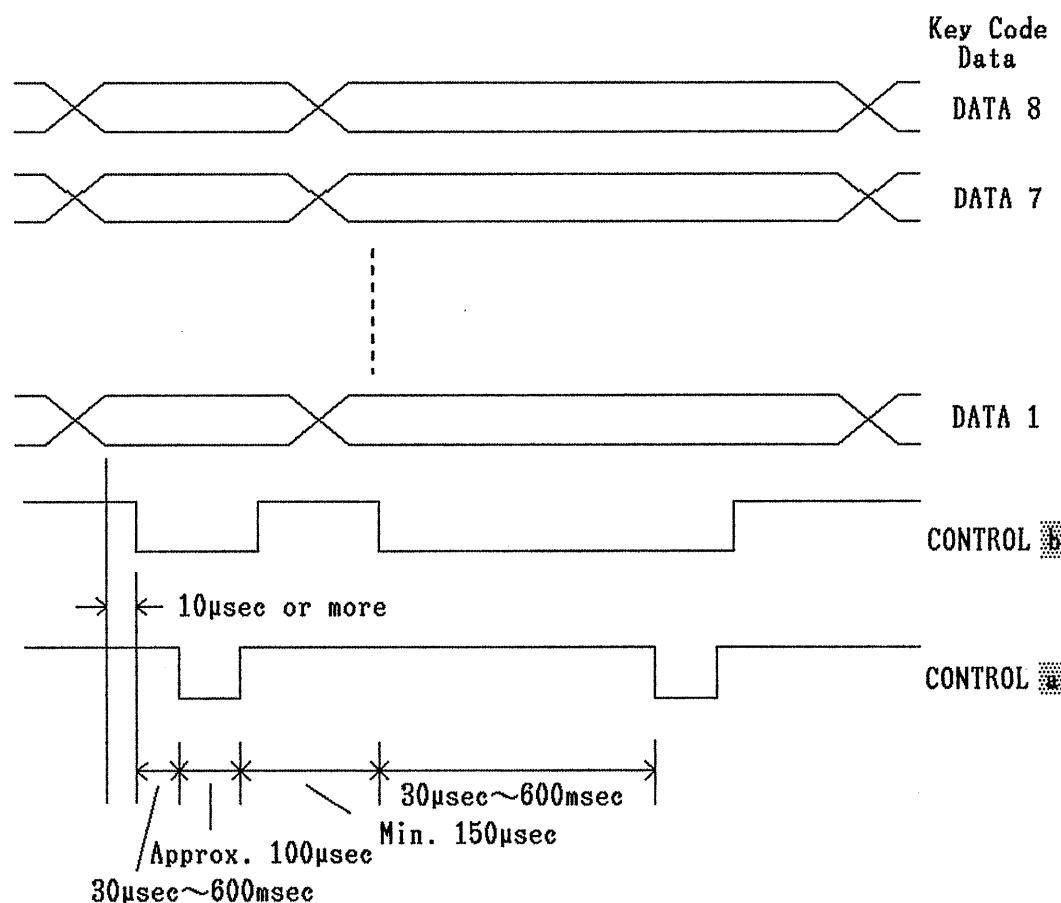

Fig. 5-5
*The timing of the input data circuit example is indicated in Fig. 5-5.*